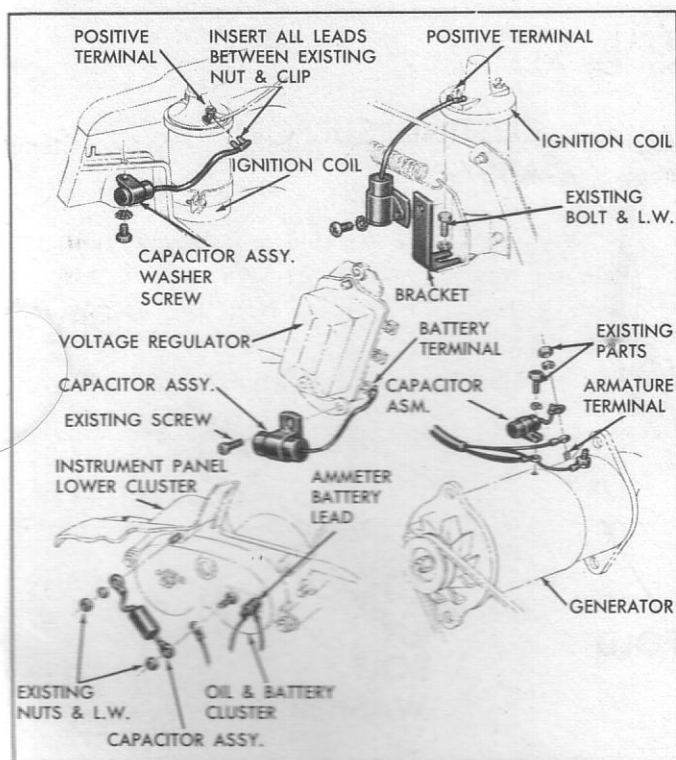

Fig. 4—Radio Capacitors
### CAPACITORS (fig. 4)
**CAPACITORS (fig. 4)**